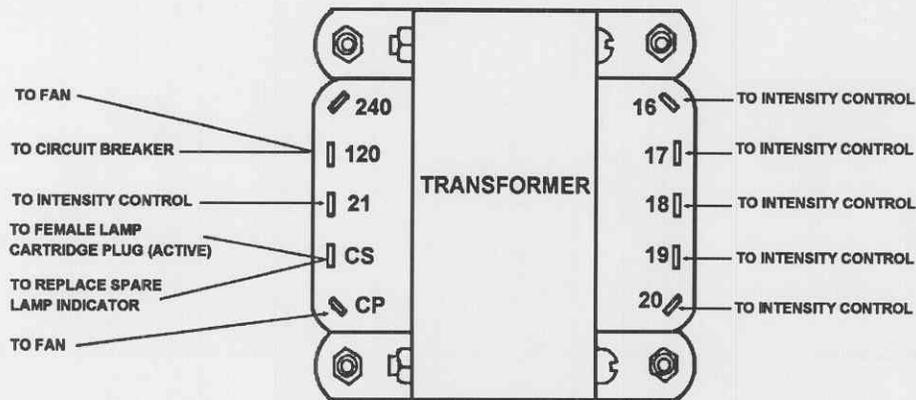

Figure 3-11. Power transformer connections.
f. Refer to figure 3-11 and locate the 120-volt and 240-volt terminals on each power transformer. Transfer the wires/terminal connectors from each 240-volt terminal to each 120-volt terminal.